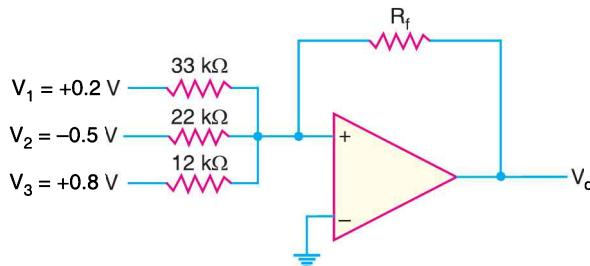

Fig. 25.106
13. Calculate the output voltage of the circuit in Fig. 25.106 for  $R_f = 68 \text{ k}\Omega$ .  $[V_o = -3.39 \text{ V}]$